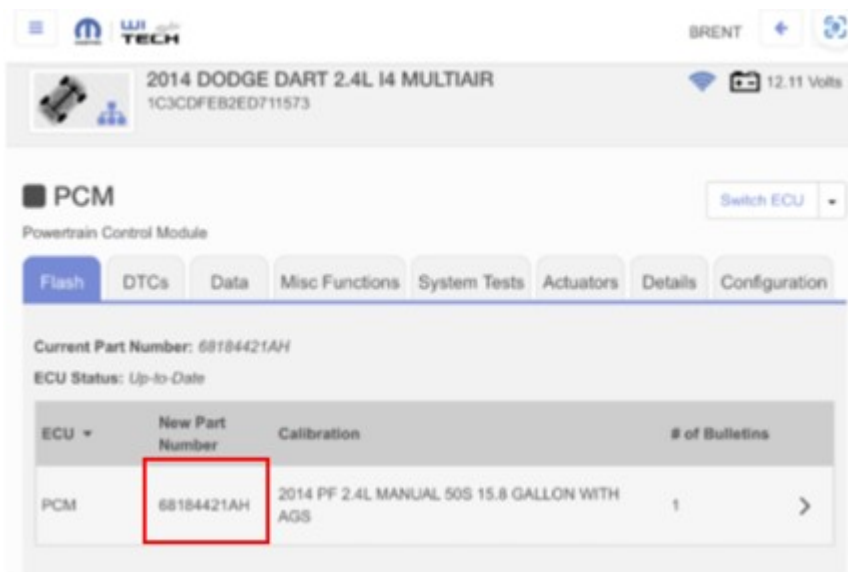

Fig. 5
9. From the “Flash” tab, compare the “Current Electronic Control Unit (ECU) Part Number” with the “New ECU Part Number” listed (Fig. 5) .